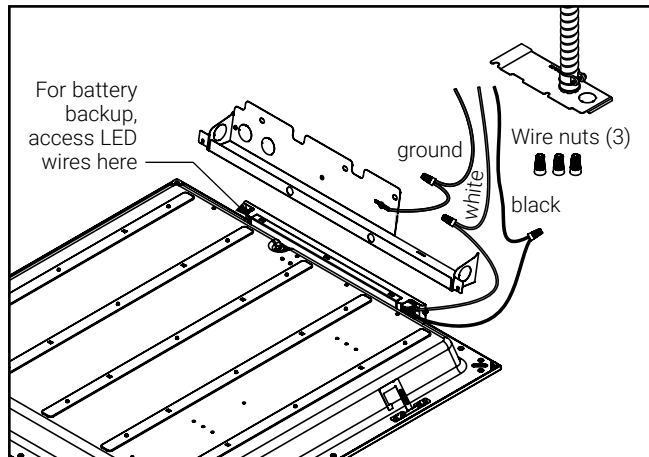

Figure 5.
- Using the open knockout bring in the supply line. Using the three provided wire nuts to attach the ground wire to the ground supply wire, the black (line) wire to the black supply wire, and the white (neutral) wire to the white supply wire (Fig. 5).
NOTE: This fixture is compatible with battery backup systems including the Surelites EBPLED7W and EBPLED14W. If using a battery backup system remove driver cover plate to access LED load wires and follow battery backup wiring instructions (Fig. 5). Ensure driver cover plate is reinstalled after wiring.